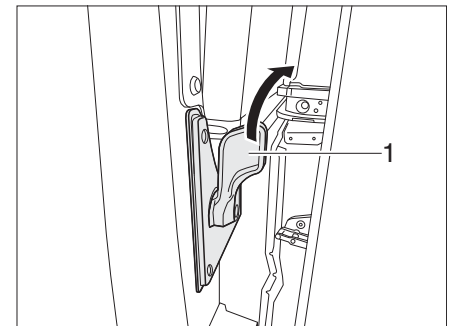

Fig. 23 Sliding door, electric - latch on inside
- Opening:* ■ Press the latch (Fig. 23,1) to the right. The electric sliding door opens completely.
- Closing:* ■ Press the latch (Fig. 23,1) to the right. The electric sliding door closes and latches into the door lock.